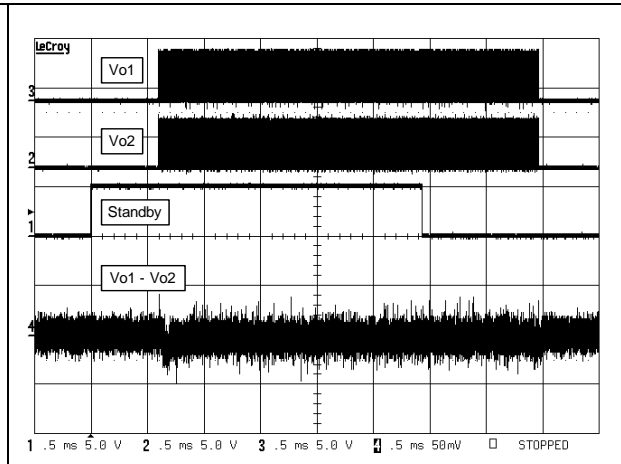

Figure 42. Startup and shutdown phase
*Note:* The gain increases smoothly (see Figure 42 and Figure 43) from the mute to the gain selected by the GS pin (Section 4.2).
*Note:* The gain decreases smoothly until the outputs are muted (see Figure 42 and Figure 43).